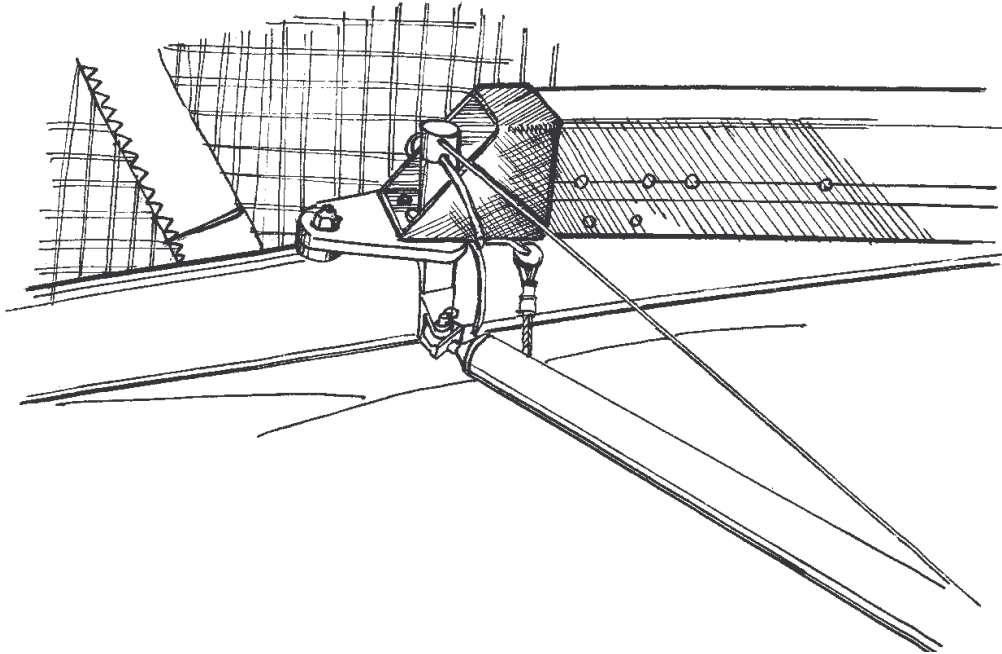

Fig. 9
2.2.4. Look through the open bottom surface pockets near the X-beam/LE junction and check that this junction is assembled properly and safely secured with the nut and the safety ring (Fig. 9). Zip the zipper near the X-beam/LE junction closed.